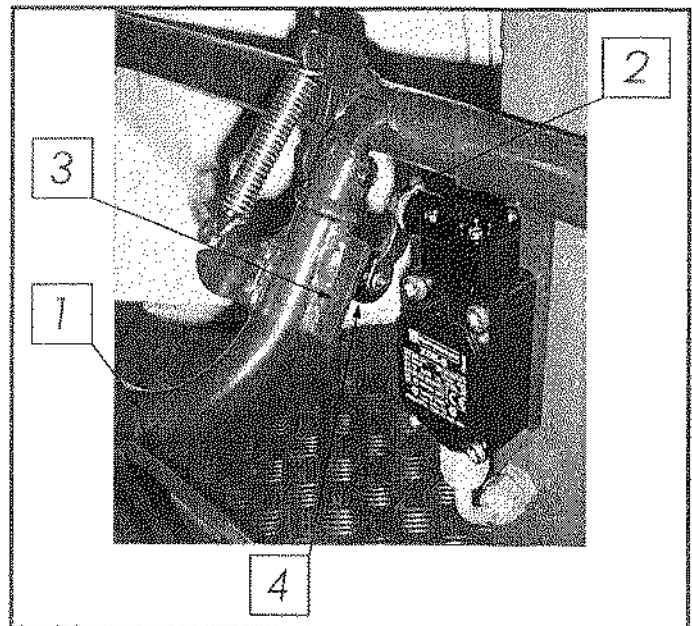

Figure 22-1
- Platform safety limit switch RK11 is located at the front part of the platform, seen from the platform behind the control panel (figure 22-1)
3. Use the jib boom control lever to turn the jib downwards. The platform should draw away from the jib boom when lever 1 of the limit switch (figure 22-1) touches the jib boom. Also try to slew the platform clockwise with the control lever for slewing the platform, in which case the platform control panel approaches the jib boom. The platform should draw away from the jib boom before any part of the control panel or platform touches the jib boom. If the platform at any time bumps into the jib boom, adjust the limit switch in accordance with the adjustment instructions.
2. Check that lever 1 of the limit switch (figure 22-1) touches the jib boom stabilizer.